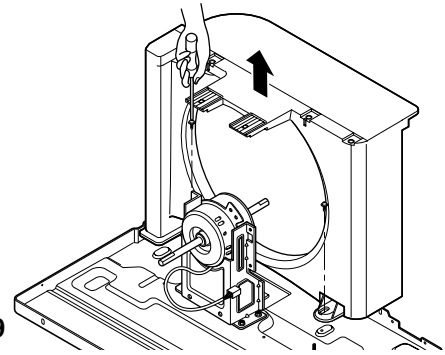

Figure 9
2. Remove the shroud. (See Fig. 9)